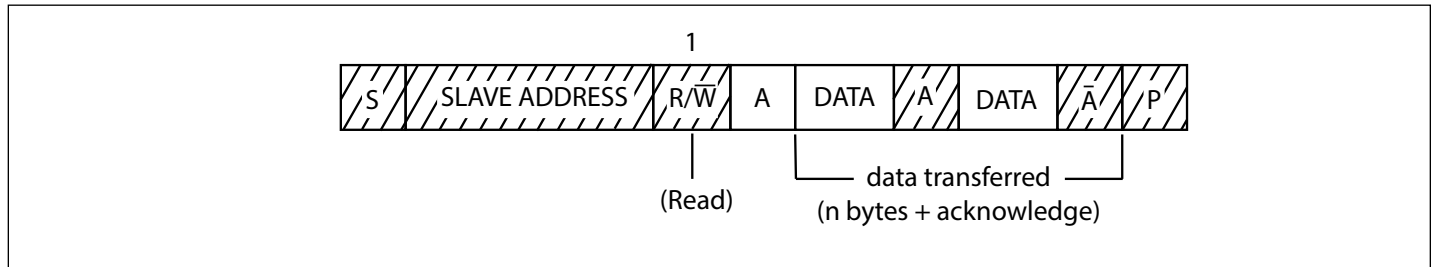

**Figure A1: A Complete Data Transfer**
Data transfers follow the format shown in Fig.A1 After the START condition (S), a slave address is sent. This address is 7 bits long followed by an eighth bit which is a data direction bit (R/W) - a 'zero' indicates a transmission (WRITE), a 'one' indicates a request for data (READ). A data transfer is always terminated by a STOP condition (P) generate by the master. However, if a master still wishes to communicate on the bus, it can generate a repeated START condition (S) and address another slave without first generating a STOP condition. Various combinations of read/write formats are then possible within such a transfer.